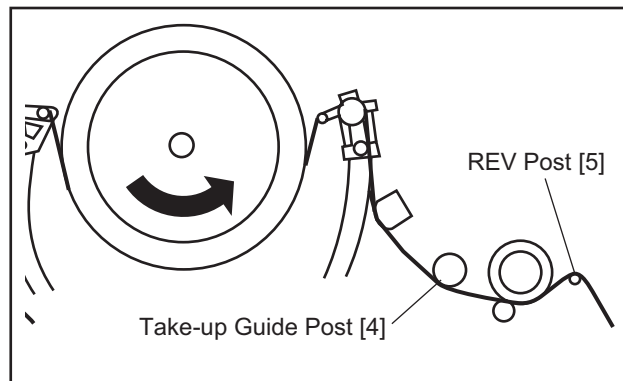

Fig.11
- (1) Insert a blank cassette tape into the tray and set the unit to REV. Then confirm if the tape has been curled up or bent at the Take-up Guide Post [4] or REV Post [5]. (Refer to Fig. 11 and 12.)
- (2) When the tape has been curled up or bent, turn the alignment screw to adjust the height of REV Post. (Refer to Fig. 11 and 13.)